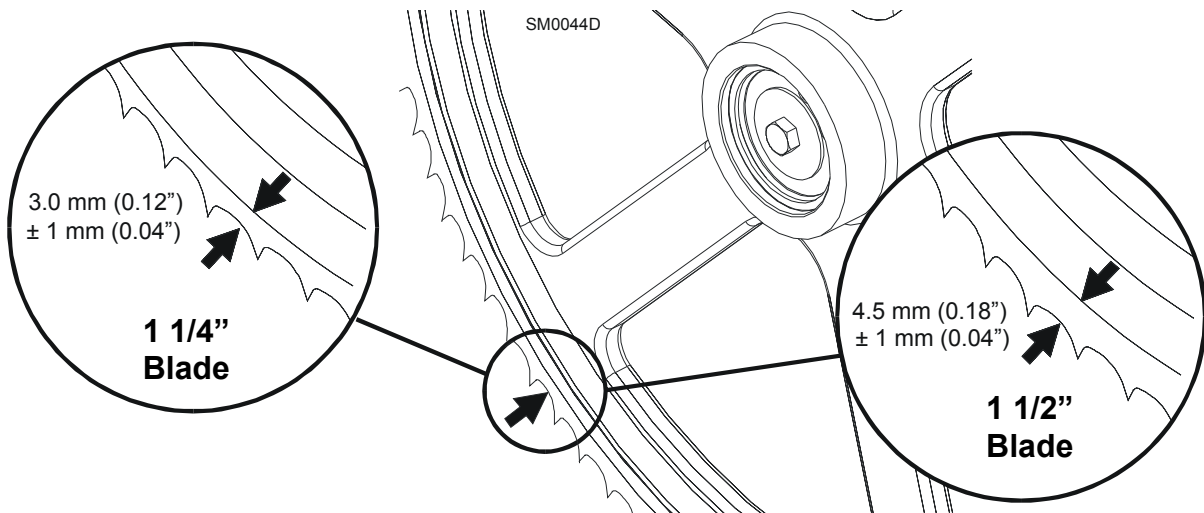

FIG. 1-6
**See Figure 1-6.** Position 1 1/4" wide blades so the gullet is 3.0 mm (0.12") out from the edge of the blade wheel ( $\pm 1.0$  mm [0.04"]). Position 1 1/2" blades so the gullet is 4.5 mm (0.18") out from the edge of the blade wheel ( $\pm 1.0$  mm [0.04"]).